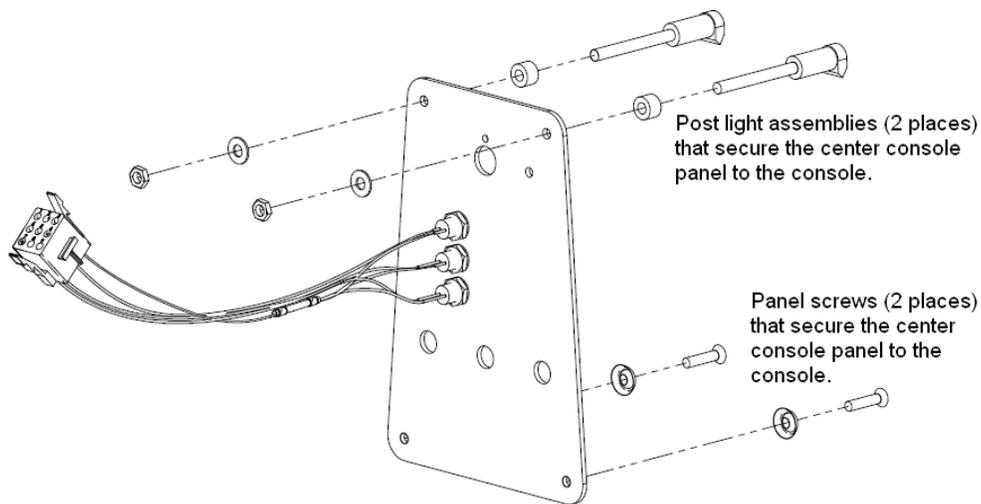

Figure 31-18 Center Console Panel
1. Remove the two screws holding in the center console panel assy. Refer to Figure 31-18 for the location of the two screws.